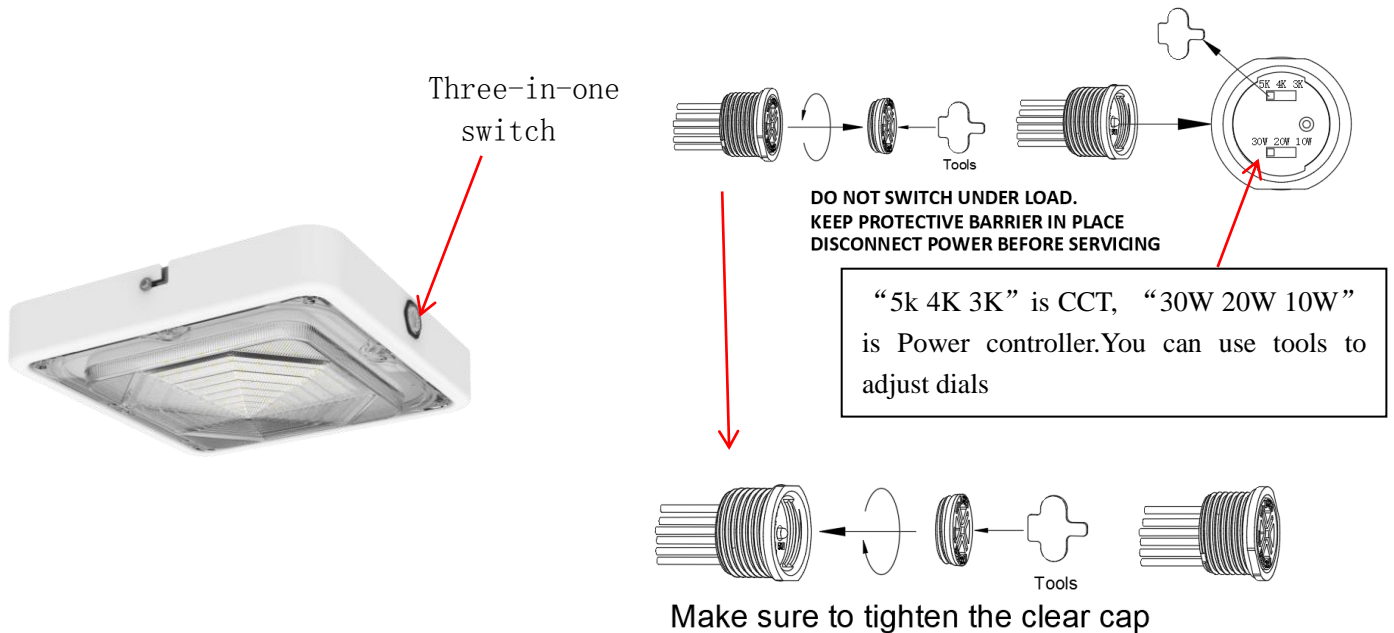

Figure 5
1.If the luminaire is designed to be wattage tunable.Please unscrew the knob cap before using the watt selectable function. According to the watt selectable label shown in Fig. 5,please toggle the DIP switch to select the corresponding watt. Screw the knob cap after using the watt selectable function.
2.If the lamp is designed to be tunable by CCT. Before using the CCT optional function, please remove the lid. According to the CCT optional label shown in Figure 5, please switch the DIP switch to select the corresponding color temperature. After using the optional function of CCT, use tools to tighten the lid.